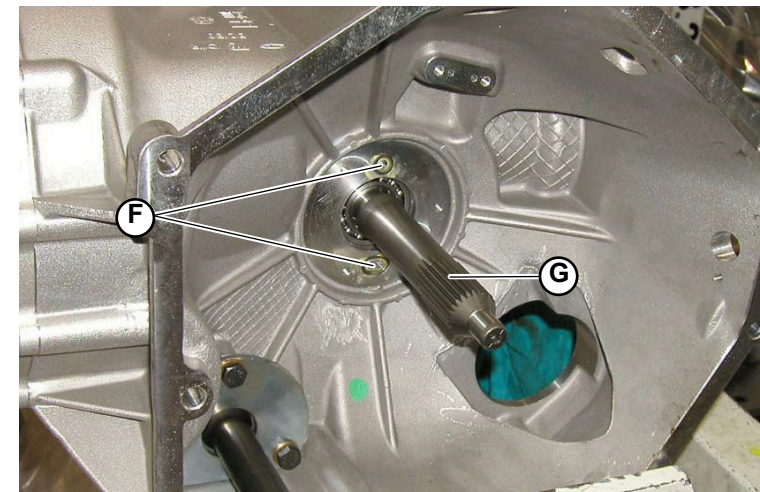

Fig.9
5. Assemble the two O-rings (**F-Fig.9**) on the clutch bell seat with Kuril K2.
6. Before inserting the clutch sleeve unit on the gearbox, completely protect the grooved profile of the shaft with tape (**G-Fig.9**); start wrapping the tape at the gearbox.